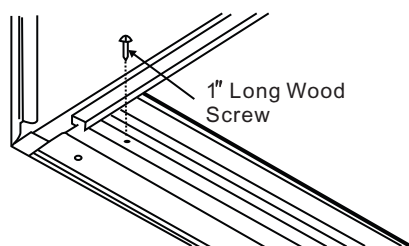

Fig.6
4. Secure bottom rail to wood frame with two large wood screws 1" (2.5cm) long using the two holes in the bottom of the channel resting on frame.(See Fig.6).